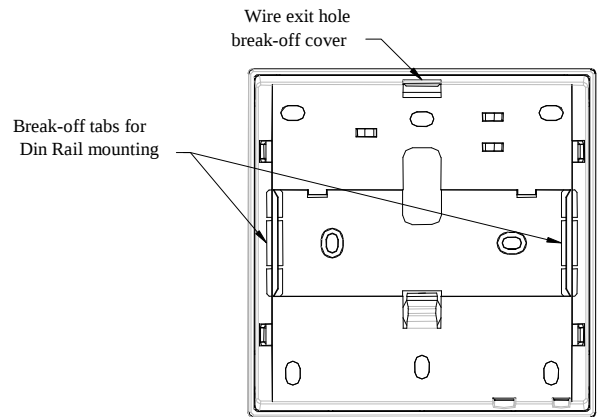

Figure 5: DIN Rail Installation – Break Off
2. Break off the tabs to expose the DIN rail channels in the base plate (Figure 5).
3. Break off the cover from the exit hole (Figure 5).